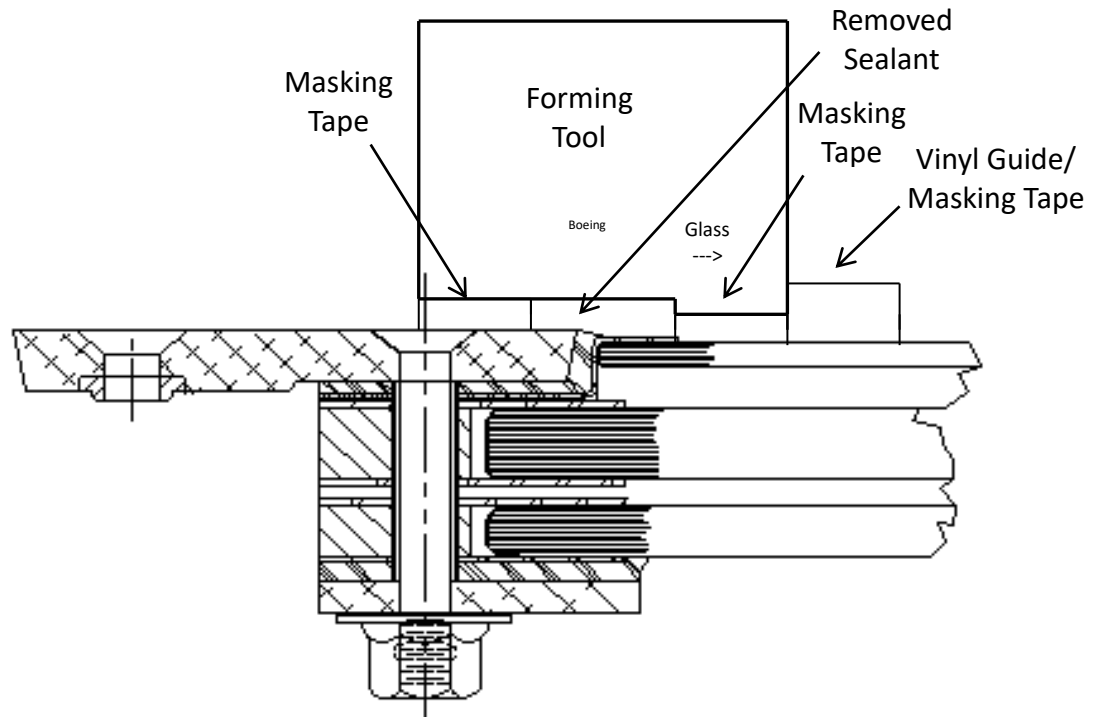

Figure 2 – Hump Seal Forming Tool Guide
- 2 Apply 1-inch masking tape to the outboard glass surface at the edge of the moisture seal forming tool as shown in Figure 2.
- 3 Locate and apply vinyl strip guide next to the 1" masking tape as show in Figure 2. This will ensure the proper moisture seal profile and position when using the moisture seal forming tool.